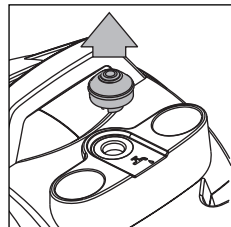

fig. 1
- To open the tank, remove the cap (fig. 1).